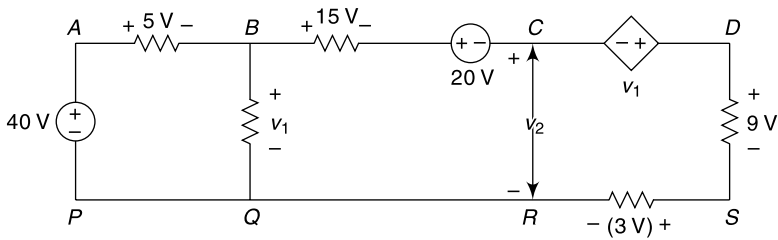

Fig. 14.32
14.60 In the circuit shown in Fig. 14.32 determine v_1 and v_2 .